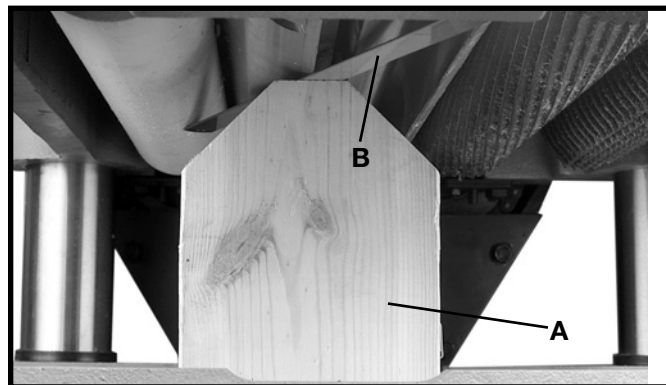

Fig. 39
2. Place the gage block (A) Fig. 39, on the table directly under the cutterhead as shown. Using a 0.020" feeler gage (B) placed on top of the gage block, raise or lower the head assembly until one of the knives just touches the feeler gage when the knife is at its lowest point. Then lock the head assembly in this position.